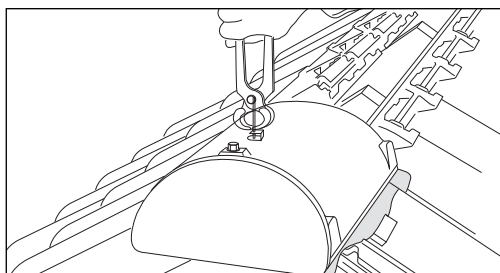

Fig 44 - Securing and trimming of wire
- 5 Feed the rubber washer and stainless steel clip onto the wire, and using pliers pull the wire tight through the self-locking slot in the top of the clip (Fig 44).